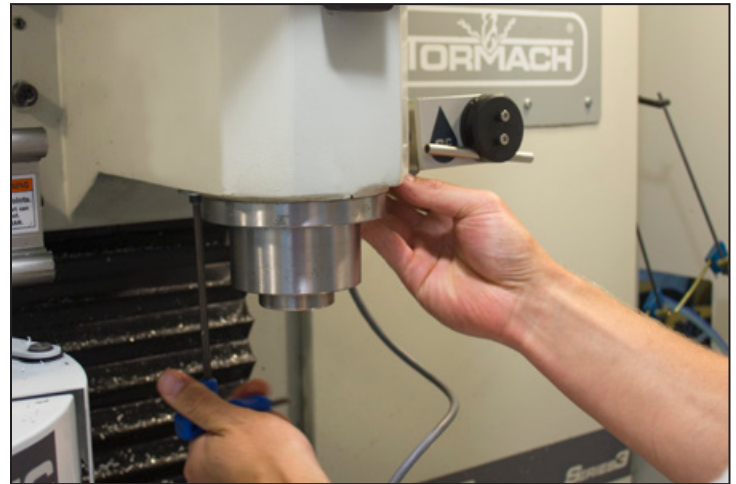

Figure 5
4. Using two M6 x 1 mm Socket Head Cap Screws and two M6 Large Flat Washers, loosely attach Mounting Bracket to two mounting holes (see **Figure 5**).